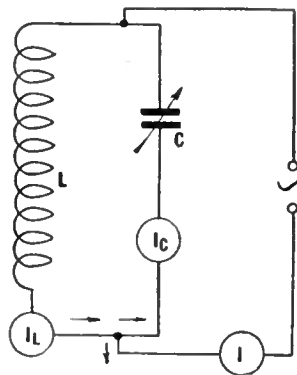
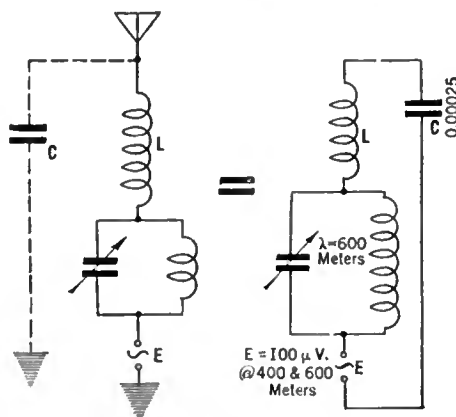

FIG. 1
FIG. 4
4. Suppose in series with the antenna is connected a circuit like that of Fig. 1 and tuned to 600 meters. Assume the resistance of the coil is 10 ohms. Calculate the impedance this circuit would offer to the 400-meter and the 600-meter signals. Then calculate roughly the ratio of wanted to unwanted voltage across the inductance L . The complete antenna system is shown in Fig. 4. In calculating the impedance neglect the effect of L and C .